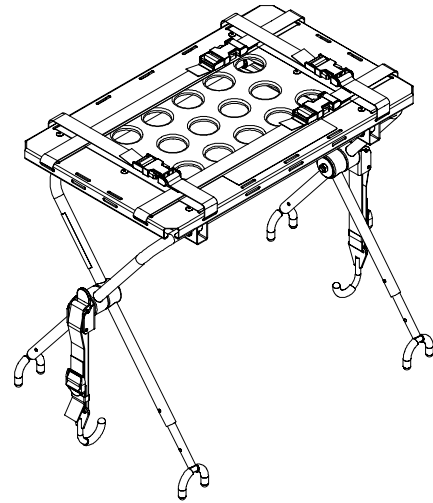

Figure 38 – Open defibrillator platform legs
2. Open and expand the defibrillator platform legs (Figure 38).